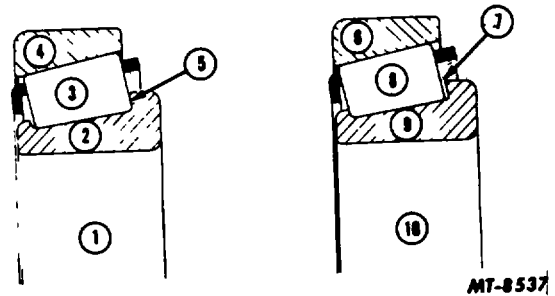

Fig. 10 Pinion Bearing Roller Position
9. The pinion cage should be rotated while tightening the pinion to seat and align the bearings. Rotation of the pinion is important Otherwise a false condition of bearing load could exist. The bearing rollers must be seated against the face of the bearing cone (Fig. 10).
13. After pinion bearing preload is established good practice would be to check bearing roller ends to see whether they are in contact with bearing cone face. Use a feeler gauge ribbon. There must be no clearance at ends of rollers (Fig. 10).